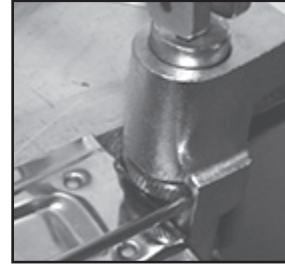

Figure 8
2. Wedge a flat headed screwdriver into the slot on the right side of the gear to keep it from turning. (Figure 8)